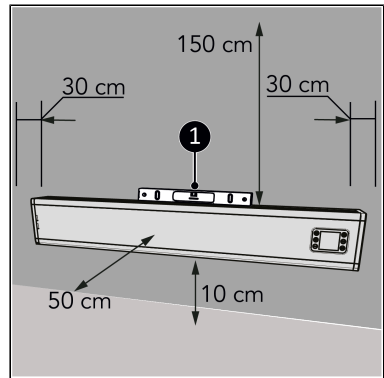

Figure 25.
1. Place the device on a vertical and solid surface. Use a spirit level when placing the device (Figure 25, pos. 1).
2. Place the device with a minimum distance (Figure 25) of: